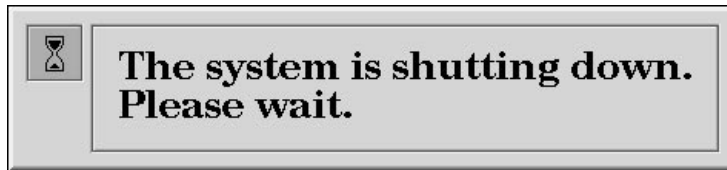

Figure 2-31 System Power Off Notifier
3. The notifier shown in Figure 2-31 appears on your screen within a few seconds. Then the system powers off automatically within the next minute.